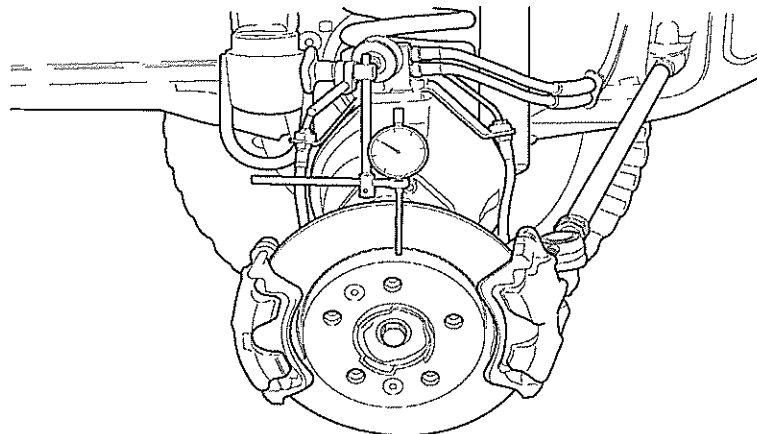

Fig 18 Measuring wheel bearing radial clearance
16.4 Check countersunk screws are securely seated and tighten to correct torque (see Table 2, Ser 14). Clean surfaces in area where measurements are to be made. Fit magnetic support with dial gauge 1/100 and extended feeler. Determine radial play of wheel bearings by tilting brake disc up and down (see Fig 18).